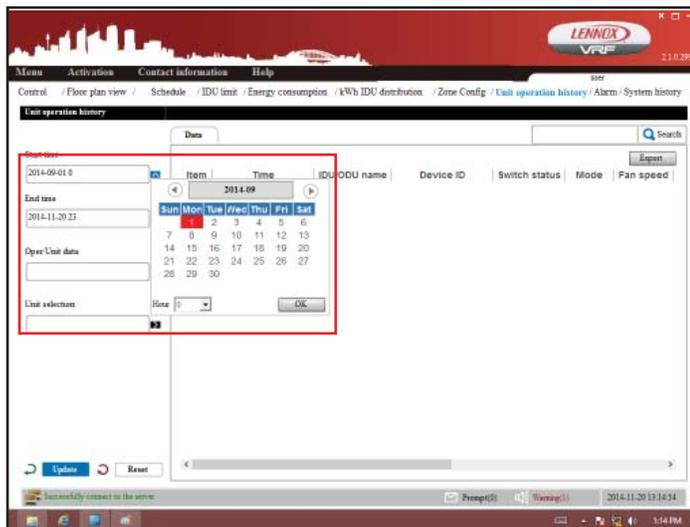

Figure 55. Select Start Time
1. Tap the Start time field. A calendar displays. See figure 55.